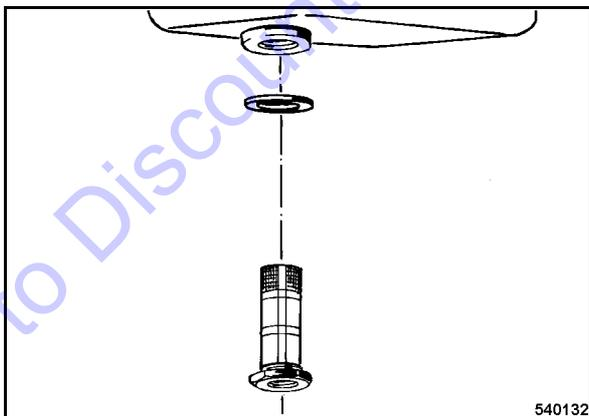

Fig. 55
- Screw the strainer (Fig. 55) out and clean it with gasoline.